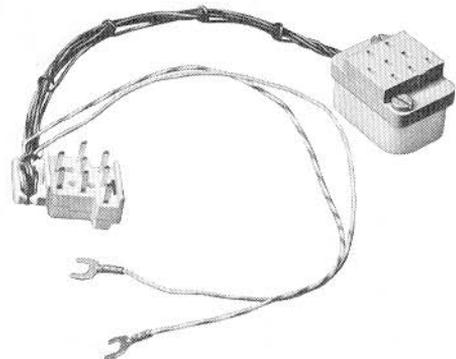

Fig. 10—810155501 Adapter
**2.18** The 635AD5C key module is equipped to provide four pickup keys, one cutoff key, and a hold key. The key module is used in the first module of the telephone set and has to be equipped with 2 contact strip assemblies 2.14(1)(c) and a piggy-back adapter 840155501 (Fig. 10) accommodates the slate 508-type mounting cord plug.